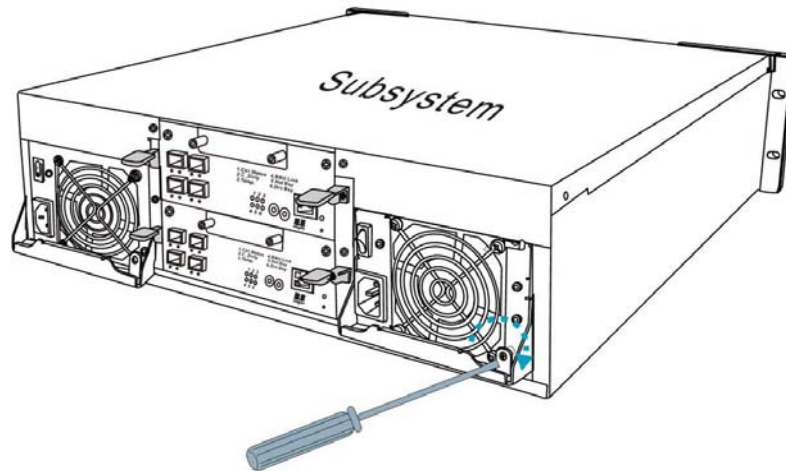

Figure 5-15: Fastening the PSU Retention Screw
**Step 8.** *Secure the PSU to the subsystem* by fastening the retention screw through the PSU extraction handle. (See *Figure 5-15*)